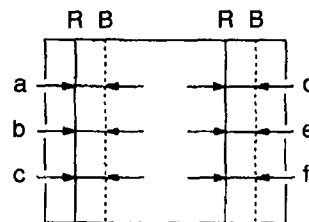

Fig. 3-7
3. Adjust the CORNER BOW (RV1703), so that RED and BLUE, as shown in Fig. 3-7, become $a=b=c$ and $d=c=f$.